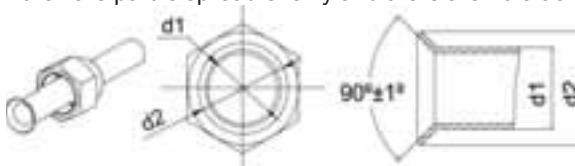

Fig. 4.10
- (1). Cut the connection pipe with pipe cutter and remove the burrs.
- (2). Hold the pipe downward to prevent cuttings from entering the pipe.
- (3). Remove the flare nut from the stop valve on the outdoor unit. Get another flare nut from the accessory bag for the indoor unit. Insert pipe through flare nuts. Flare the connection with a flaring tool.
- (4). Check if the flare part is spread evenly and there are no cracks (see Fig. 4.10).